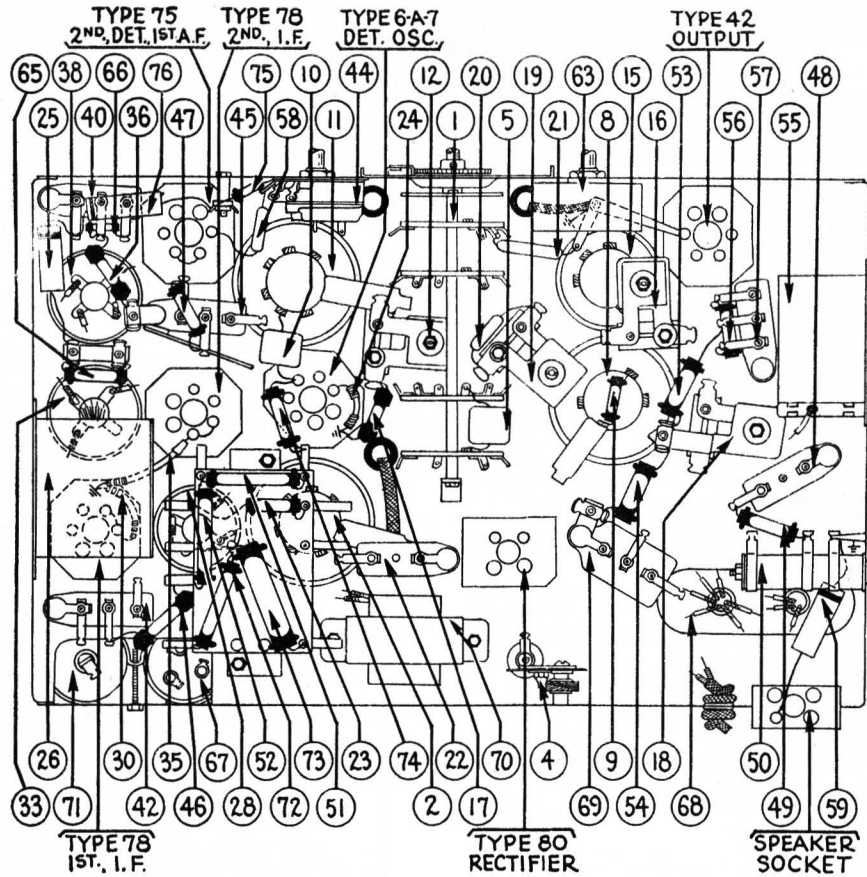

Fig. 4—(Base View)
2—ADJUSTMENT OF THE WAVE TRAP—Replace the grid clip upon the Detector-Oscillator tube (Type 6A7). Connect the output leads from the signal generator directly to the antenna and ground terminals of the receiver. Set the Wave-Band Switch of the receiver to the standard broadcast band (extreme left) and the Station Selector at the low frequency (520 K.C.) end. Adjust the Wave Trap ④ condenser to give MINIMUM response to a 460 K.C. signal from the signal generator. The Wave Trap ④ is located at rear and underneath the chassis, and is shown in Figures 4 and 5. It is reached from the rear of the chassis.
Turn the Wave-Band Switch to Range 2, and adjust the Station Selector to 3.6 M.C. The "Antenna" connection between the Signal Generator and the receiver chassis must be removed for this adjustment, otherwise the output of the Signal Generator will be too great. Adjust the compensating condenser ⑮ to give maximum response in the output meter. This compensating condenser is located underneath the chassis and is not accessible from above. See Figure 4.
The Model 024 or its equivalent is now used again. Turn the Wave-Band Switch of the set to Range 2 and the Station Selector to 1.5 M.C. Set the Signal Generator at 1500 K.C. Make sure the "Antenna" connection between the Signal Generator and the Chassis has been restored. Adjust compensating condenser ⑯ located underneath the chassis, (Figure 4). Adjustment is made from the underside of the chassis.
Turn the Wave-Band Switch to Range 1 and the Station Selector to 1400 K.C. Set the Signal Generator at 1400 K.C. Adjust compensating condenser ⑰, which is located underneath the chassis. (See Figure 4). This adjustment is made from the underside of the chassis.
Finally, with Wave-Band Switch at Range 1, and Station Selector at 520 K.C., set the Signal Generator at 520 K.C. and adjust compensating condenser ⑱ (Figure 4). This compensating condenser is also mounted underneath the chassis, and reached from below.